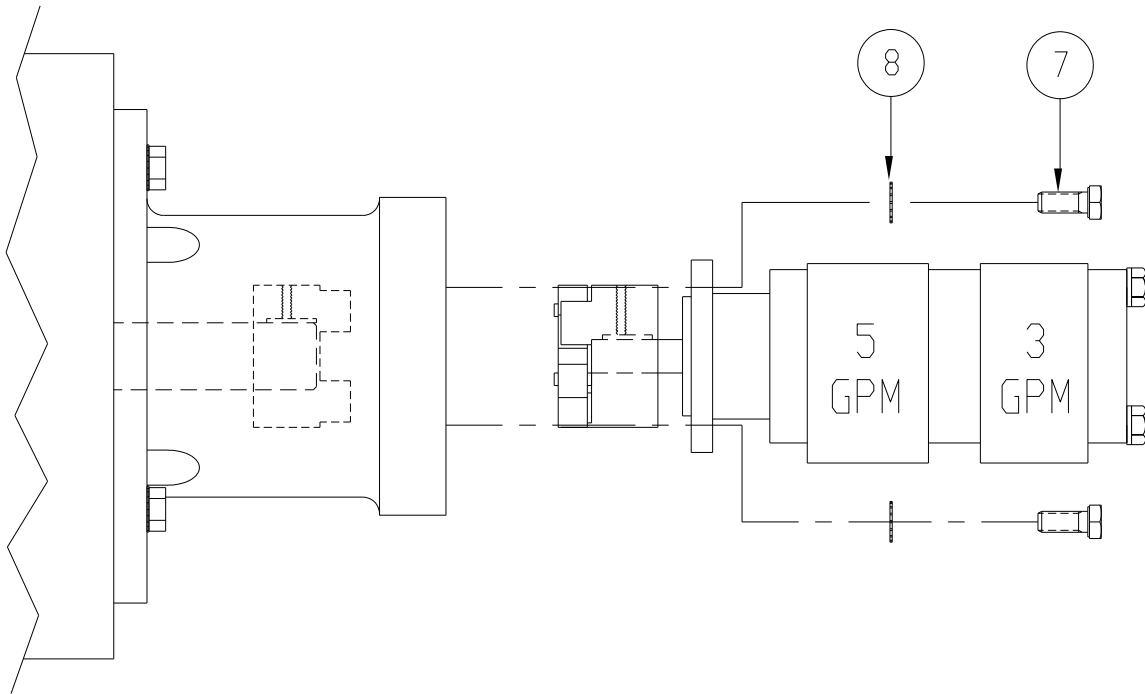

Figure 3
5. Mount the pump to the bracket with the single suction port (large diameter) downwards. Ensure the center line of the pump coupler aligns with the center line of the engine coupler. **If these center lines are not aligned, equipment damage can occur.** Fasten the pump in four places using a 5/16-18 X3/4 hex head screw and 5/16 lock washer. See Figure 3.